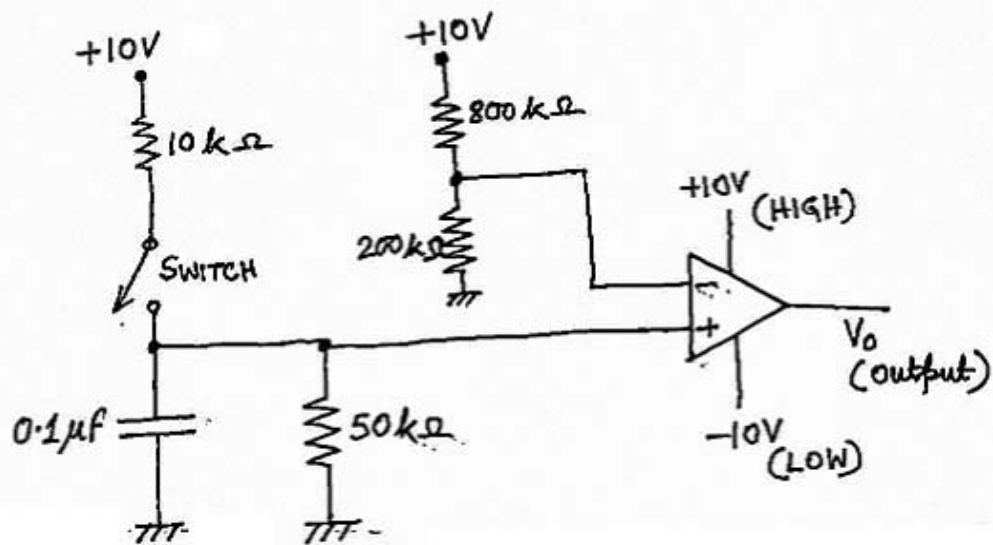

FIG. P1.
- Q1(a). For the circuit shown in Fig. P1, the switch is initially closed. It is opened at $t = 0s$ and remains open thereafter. Find out the time (in milliseconds) at which the output voltage becomes LOW from HIGH. (5)
- (b) Draw the circuit diagram and explain the operation of an Op-Amp based V-to-I converter for a floating load. (5)